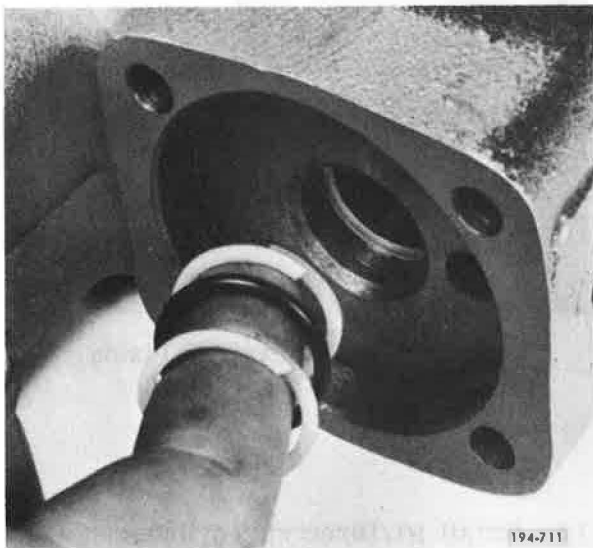

Figure 5-847. Installing O-ring and Teflon Rings
1. Install o-ring and two Teflon rings in both the reverse opening and the Hi/Direct opening of shift cover. See **Figure 5-847**.